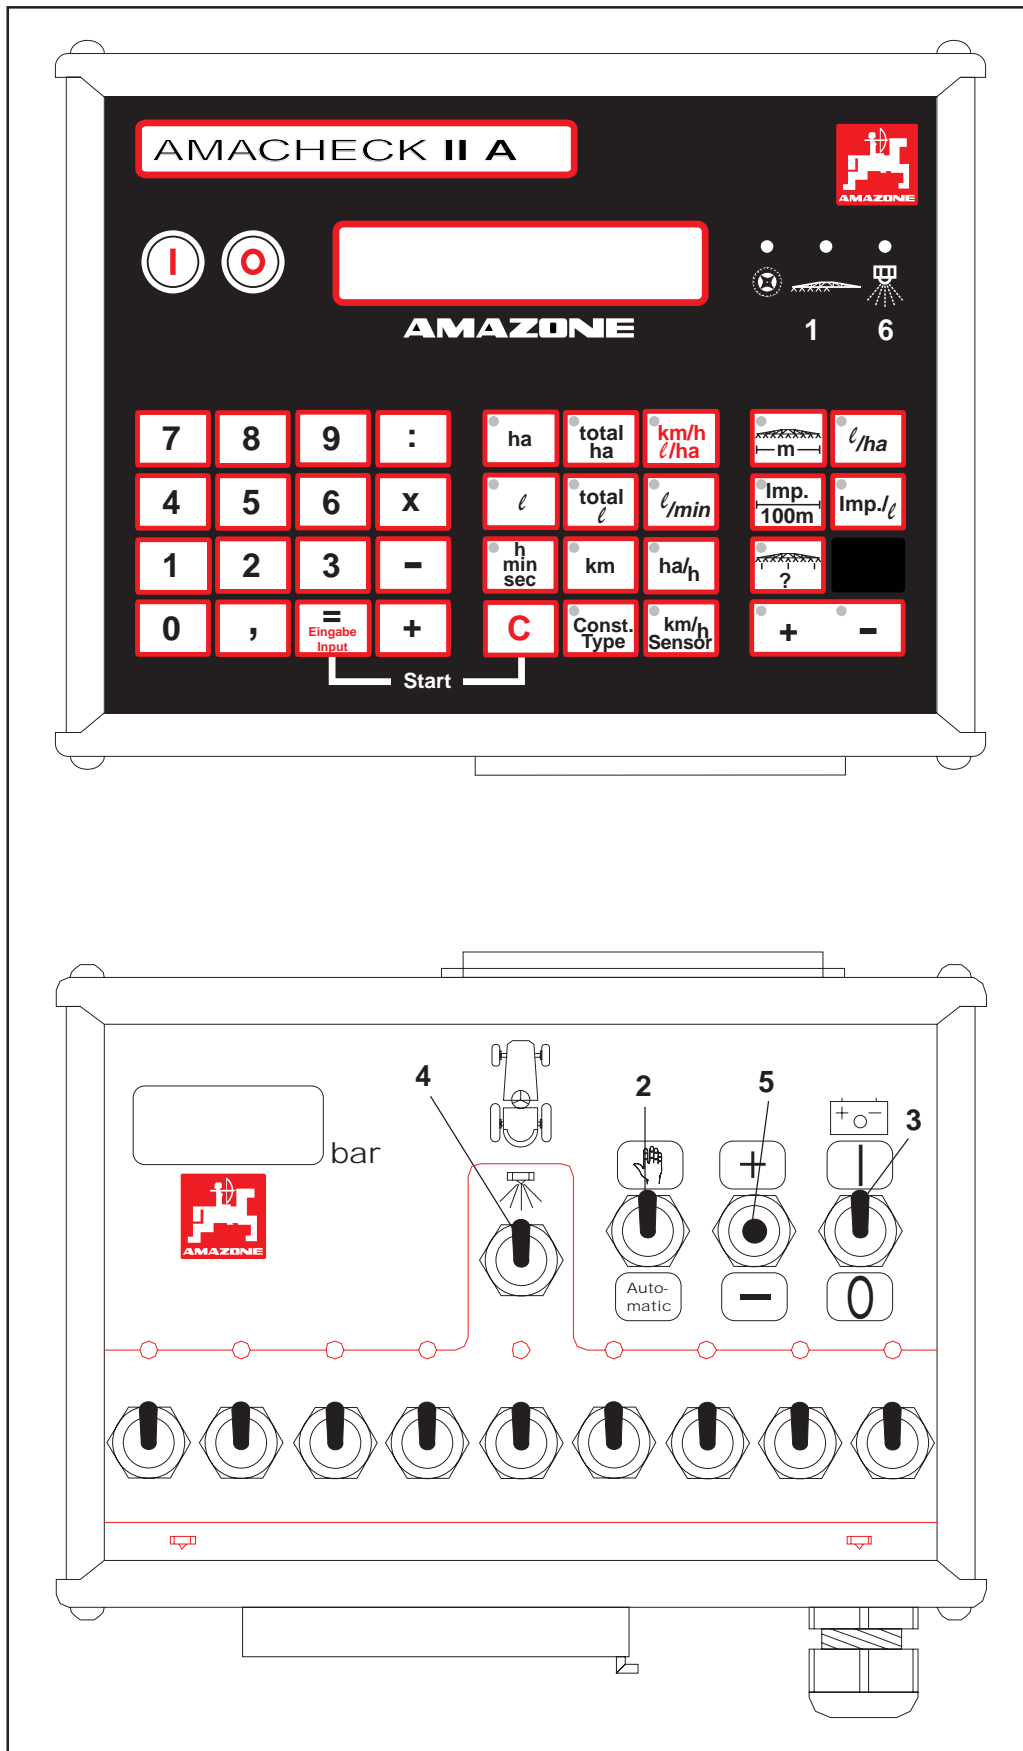

Fig. 8.8
- Program switch (Fig. 8.8/ 2) in position "manual".
- On/off switch (Fig. 8.8/ 3) for power supply of switch box in position "I" (ON/EIN).
- Switch for the central boom feed on/off switch (Fig. 8.8/ 4) on the switch box in position "0" (OFF/ AUS).
- Set the prescribed spray rate by the \pm switch (Fig. 8.8/ 5). (Please refer to para. 6.1.3).
When deviations are noticed between the displayed spray rate and the nominal spray rate change the spray pressure accordingly by the \pm switch (Fig. 8.8/ 5) of the switch box until the displayed spray rate and the nominal rate coincide.